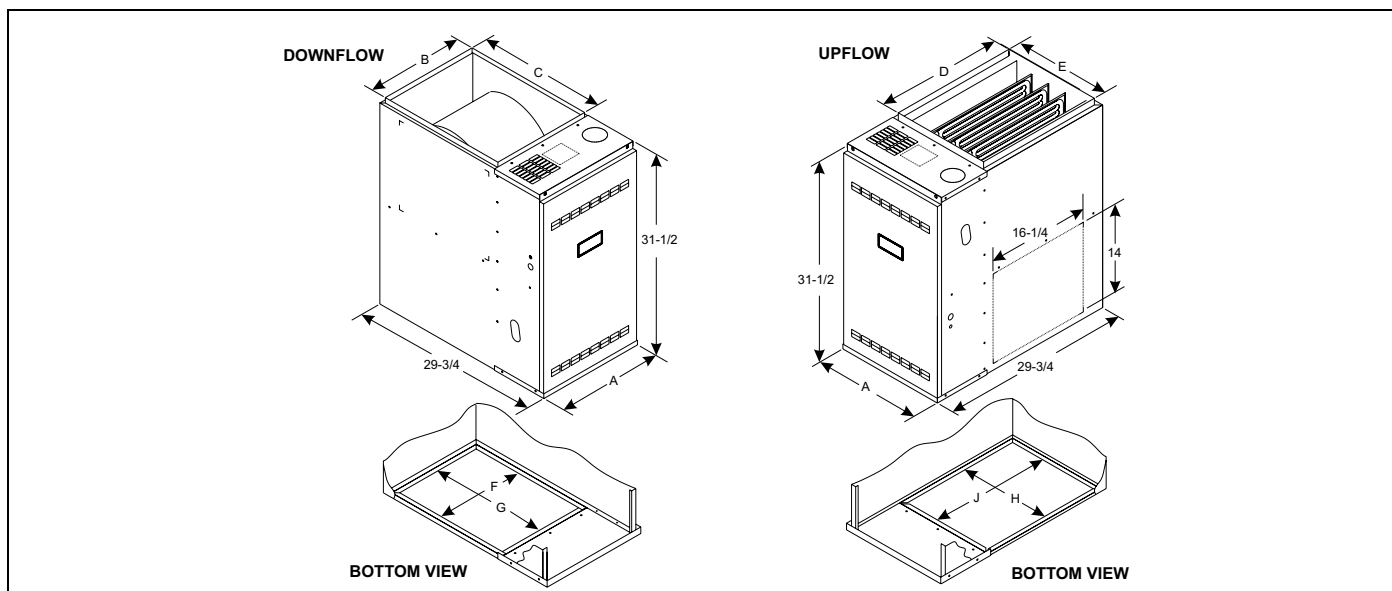

FIGURE 5: Dimensions
1. Bend the 3/4" flanges that will be used to attach the return air plenum using the scribe marks in the furnace base. Refer to Figure 5 for flange locations.
2. Be sure to seal the furnace to plenum connections to prevent air leakage. Refer to Figure 5 for unit and plenum dimensions. Attic installations must meet all minimum clearances to combustibles and have floor support with required service accessibility.